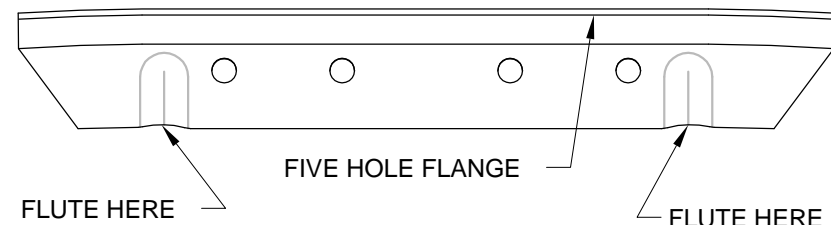

FIGURE 2:
Step 3: Flute the F-1210C Angle at the places called out in Figure 2. Each flute needs to 'hump' in the same direction as the five-hole flange. With the five-hole flange pointing up, align the holes in the four-hole flange of the angle to the full scale illustration in Figure 2. Increase the two flutes until the five-hole flange matches the curve shown in Figure 2.